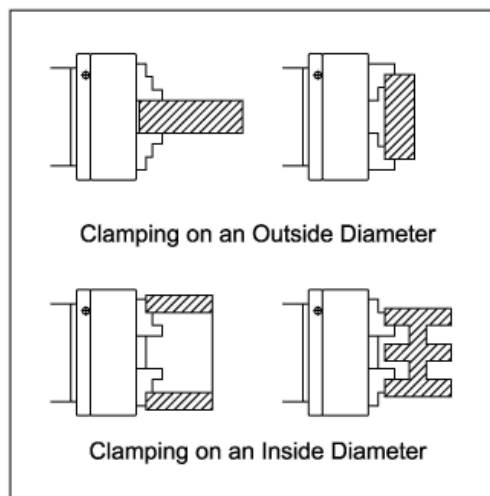

Figure 24. Examples of workpiece mounted in the 3-jaw chuck.
3. Use the chuck key to move the jaws and mount the workpiece to the chuck, similar to one of the methods shown in Figure 24. Make sure the workpiece is mounted firmly on the chuck.